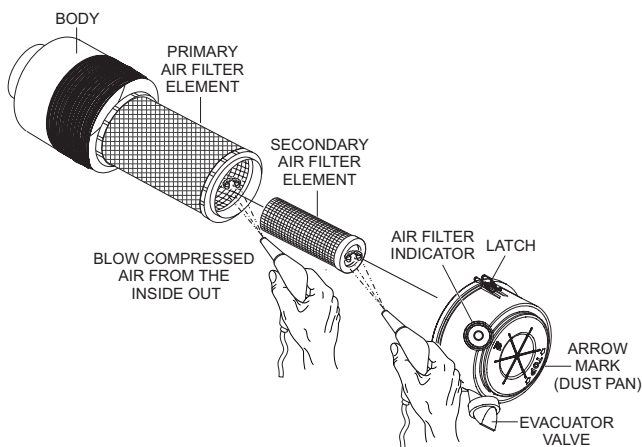

Figure 66. Engine Air Cleaner
This John Deere diesel engine is equipped with a replaceable, high-density, paper air cleaner element (Figure 66). The air cleaner is also equipped with an inner (secondary) element that is used as a backup filter should the primary element become damaged. Check the air cleaner daily or before starting the engine. Replace the air cleaner as needed.
1. Release the **latches** that secure the **air cleaner cover** to the **air cleaner body** (Figure 66).
2. Remove the air cleaner cover (Figure 66) and set it aside.
3. Remove both the primary and secondary **air cleaner elements** (Figure 66).
5. To clean the **primary element** (paper air filter) as shown in Figure 66, tap the filter element several times on a hard surface to remove dirt, or blow compressed air, not to exceed 30 psi (207 kPa, 2.1 kgf/cm²), through the filter element from the inside out.
8. Clean the inside of the air cleaner body (Figure 66).